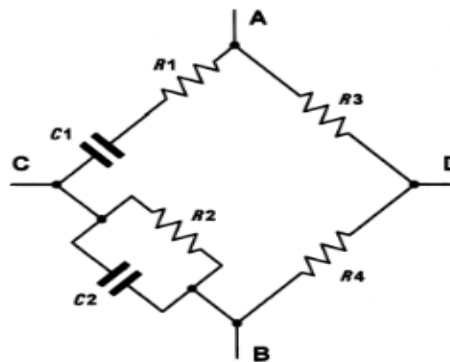

Fig 2.17. A Wien bridge network
- An alternative approach to providing the phase shift required is the use of a Wien bridge network (Fig. 2.17).